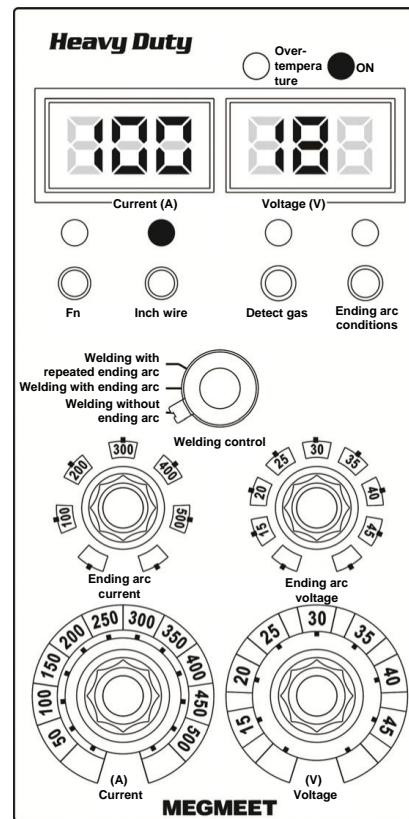

Figure 3-17 Remote control box of the wire feeder
**Inching**  button on the control panel of the wire feeder (see Figure 3-17) to inch wire is as follows: